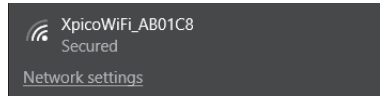

Figure 14: XpicoWiFi Connection
3. Select XPicoWiFi_XXXXXX to connect. See Figure 14.